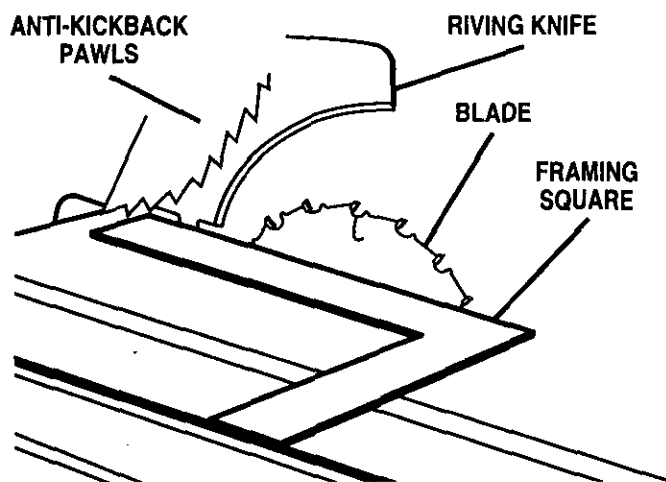

Fig. 29 26
See Figures 29, 30, and 31.
- Place a framing square or straightedge beside the blade on the left. See Figure 29.